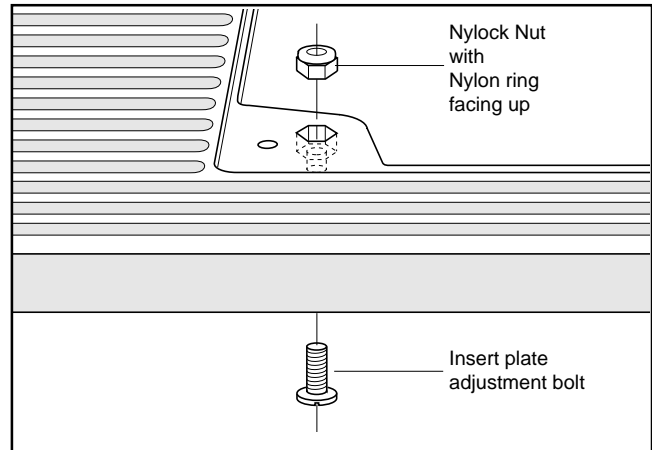

Fig. G.1
2. Assemble the four **Insert Plate Adjustment Bolts** and the four **Nylock Nuts** to table as shown in fig. G.1.